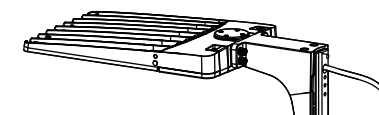

Figure 10
6. DIRECT MOUNTING (DM)
- Step 1: Remove the bracket mounting screws on the fixture and pass the wires through the bracket. (Figure 10)